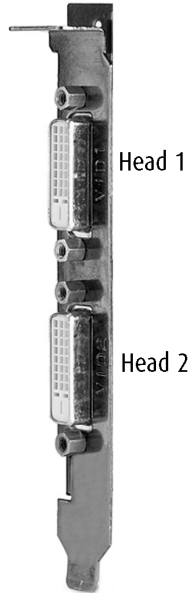

Figure 6: The Video Outputs.
6. Connect the primary display (left most display in a linear configuration, top most in a vertical configuration) to the uppermost connector on the BarcoMed Coronis (the output farthest from the motherboard – **"Head 1"** in figure 6) using the provided